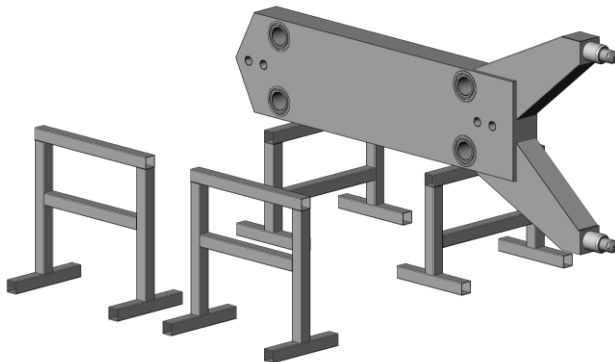

Figure 6-1
1. Place the fixed end assembly on the two 19" jack stands (see figure 6-1). The jack stands should be located near the ends of assembly as shown. Position the two 25³/₄" tall jack stands as shown. Depending on the size frame you are assembling the actual distance from the fixed end will vary. These stands will support the rails and should be located so they are opposite from the rail holes in the fixed end.